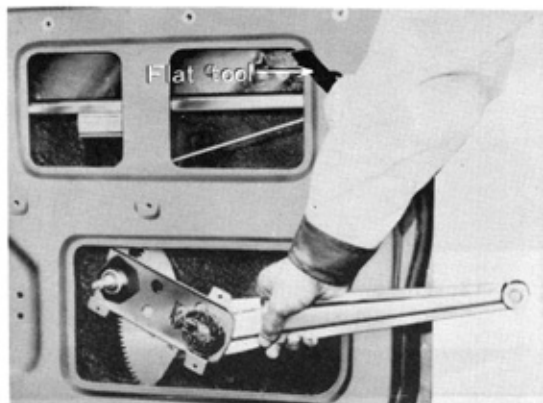

Fig. 1-10 Window Regulator Removal V 0398
6. Support the glass in the position illustrated in the Fig. 1-10 with a proper tool to prevent it from lowering.